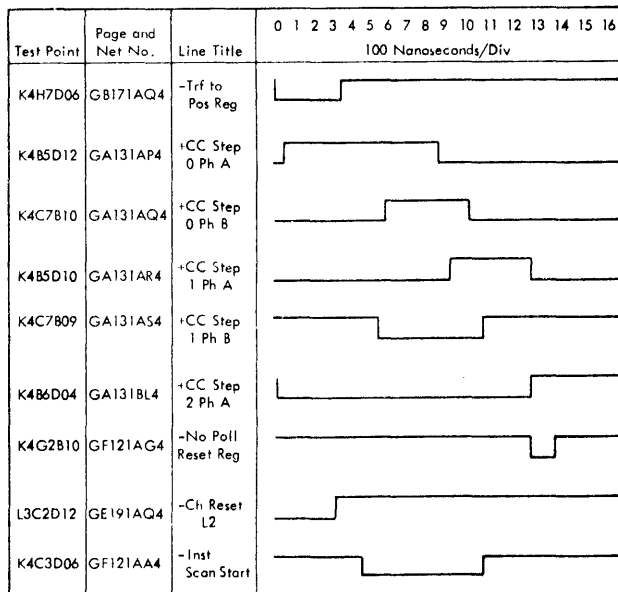

FIGURE 103. CYCLE COUNTER
2. Sync scope on L3E7B08 plus external; set first pulse on Figure 103 at zero time.
3. Check all points in Figure 103.